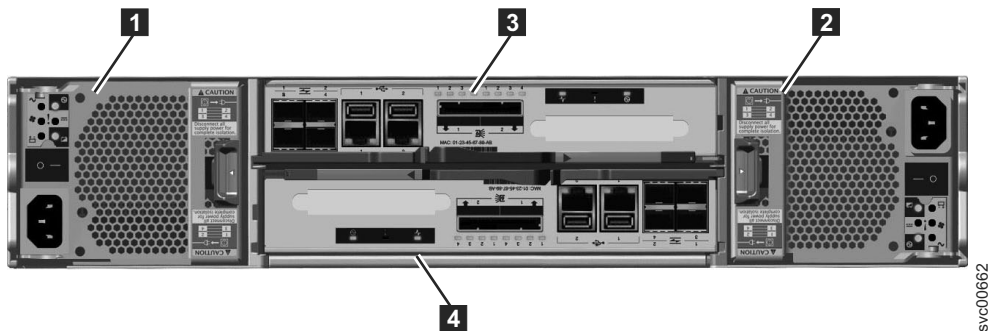

Figure 7. Rear view of a model 2076-112 or a model 2076-124 control enclosure
Figure 7 shows the rear view of a control enclosure and identifies the location of the power supply units and the canisters.
- Two canisters are housed in the middle of the enclosure. Each canister is known as a node canister. The upper canister, as shown in Figure 7, is labelled **3**, and the lower canister is labelled **4**. Canister **3** is top side up, and canister **4** is inverted, or top side down.